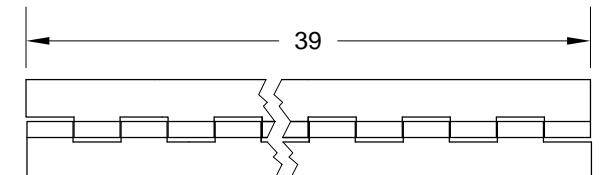

FIGURE 1: MAKING THE SIDE HINGES
Step 1: Create two COWL-10-03 Side Hinges from AN257-P3 piano hinge per the dimensions given in Figure 1. Do not cut the pin supplied with the hinge.